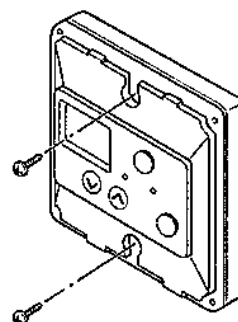

fig.4
6. Fix the controller to the wall and fasten with the phillips head screws supplied as shown in (fig. 4.)
12. Remove rubber access plug and adjust the regulator screw on the modulating valve (Fig. 4) as required to the pressure below. Replace rubber access plug.